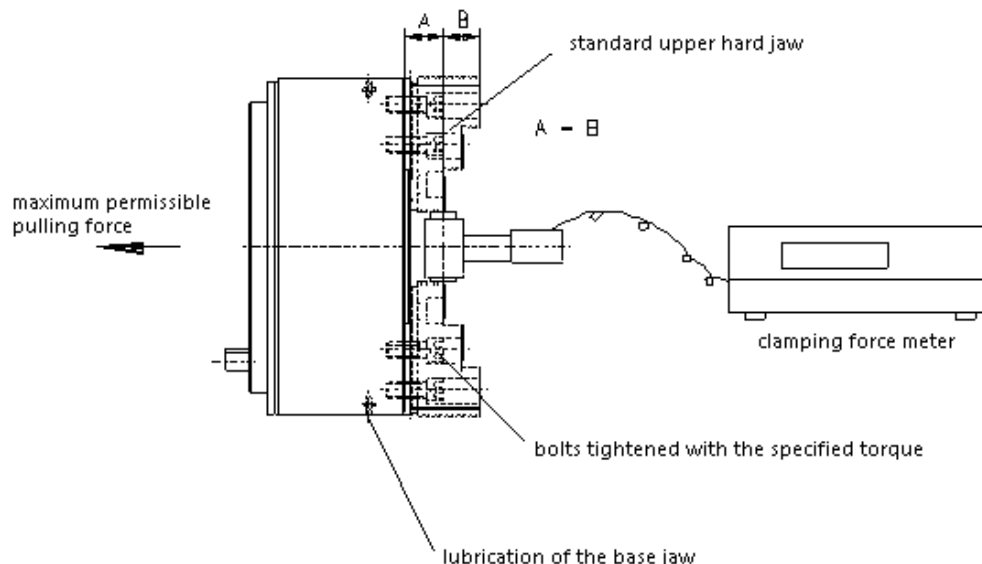

Fig. 3 Scheme for measurement of clamping force.
The static clamping force varies depending on the condition of the lubrication, the type of grease, the height of the upper jaw and other factors. The values given in the tables are based on the following conditions (see Fig. 3):
- (1) When using the "BISON-BIAL" soft upper jaws, the clamping force values are measured using a clamping force meter at the mid-point of the upper jaw height (measured from the front of the chuck to the upper surface of the soft jaw) as shown in Figure 3.
- (2) The GLEITMO 805 grease from FUCHS is used for maximum efficiency of the "BISON-BIAL" chucks.
- (3) The bolts fixing the upper jaws should be tightened to the specified torque (see Tab. 5).
- (4) The maximum allowable pulling force for the chucks is given in the table on page 7.